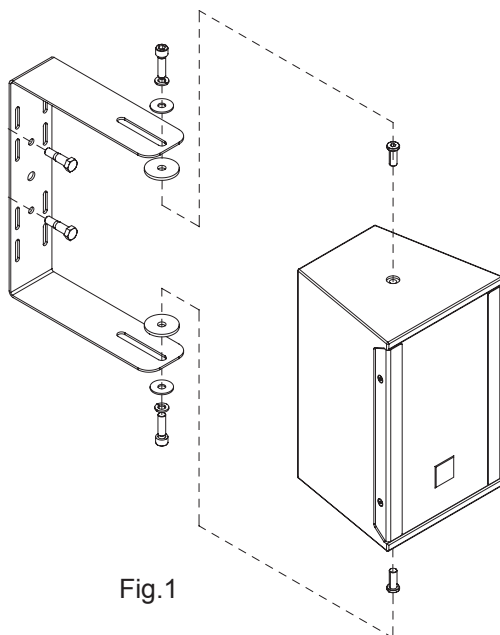

Fig.1
- Step 3:** Place the speaker between the U-Bracket's arms. Insert a hex screw, flat washer and lock washer (must match the speaker's thread) through the desired slot in one of the arms (with the sound isolation gasket if you desired), threading the screw into the loudspeaker. Repeat on the other side of the speaker. (See figure 1) Do not fully tighten yet.